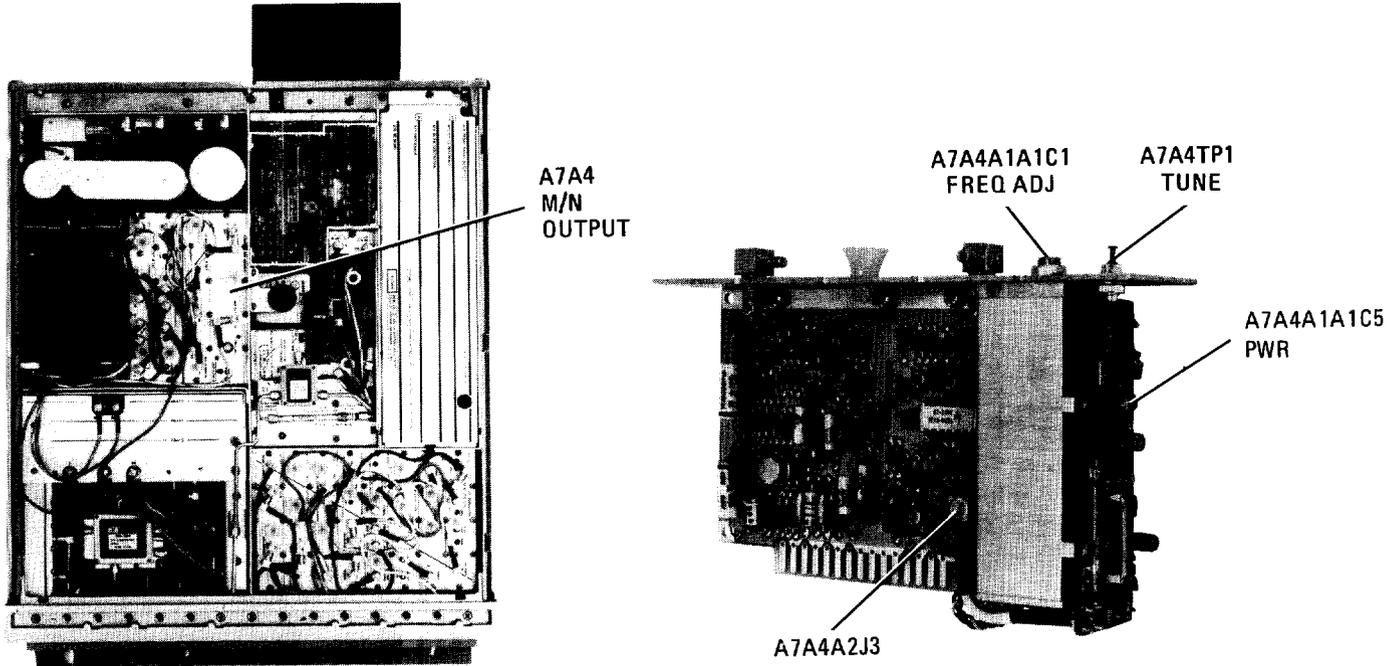

FIGURE 51. LOCATION OF M/N LOOP ADJUSTMENTS
6. Connect the DVM to A7A4TP1 TUNE test point. Refer to Figure 51 for location of A7A4 assembly.
15. Adjust A7A4A1A1C5 PWR for a VCO output level of 0 dBm ± 2 dB as indicated on the spectrum analyzer. Refer to Figure 51 for location of adjustment.